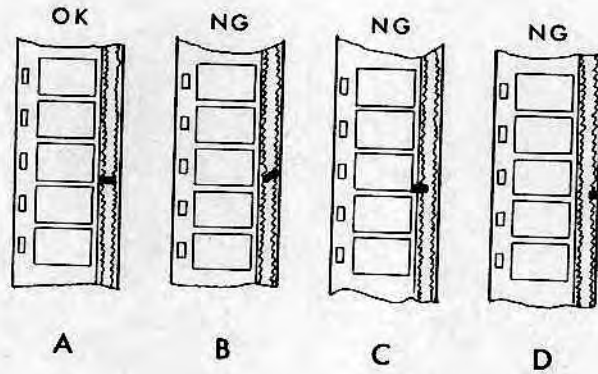

FIG. 26
Unable to play back high frequency range	Improper position of the (3) as shown in Fig. 26(B). Stain on (3).
Played back the sound of poor quality	The (5) is out of position as shown in Fig. 26(C)(D).
- c. Run the projector with film and play back the signal with maximum volume. To obtain the maximum output, adjust the sound lens position by turning or sliding the lens back or forth after loosening the (4) and by tightening or loosening the (5)(6). Refer to Fig. 26(A).